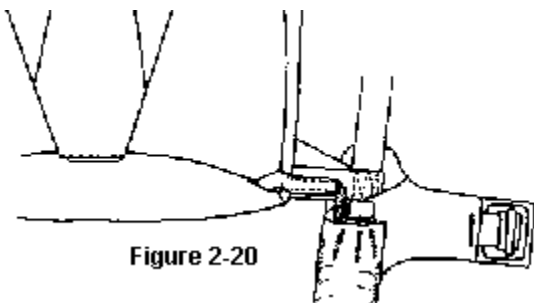

Figure 2-20
Step 25 Fold pilot chute in half about its center and roll TIGHTLY. Insert into the leg pouch as shown in *Figure 2-20*.